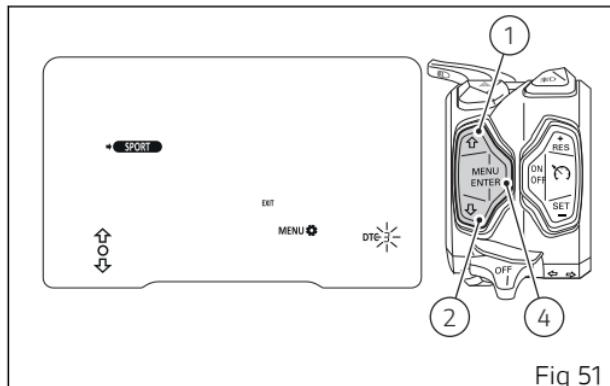

Fig 51
When entering the function, the DTC value starts flashing (Fig 51). Use buttons (1) and (2) to set required value, which can be 1 to 8 or "OFF", i.e. DTC disabled. To confirm, press the button (4).